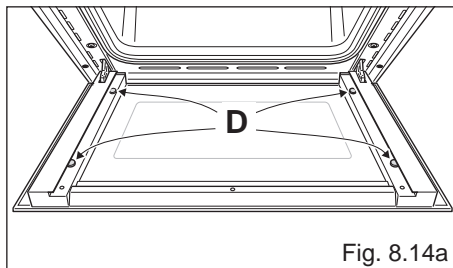

Fig. 8.14a
- Check that the four rubber pads are in place ("D" in fig. 8.14a).